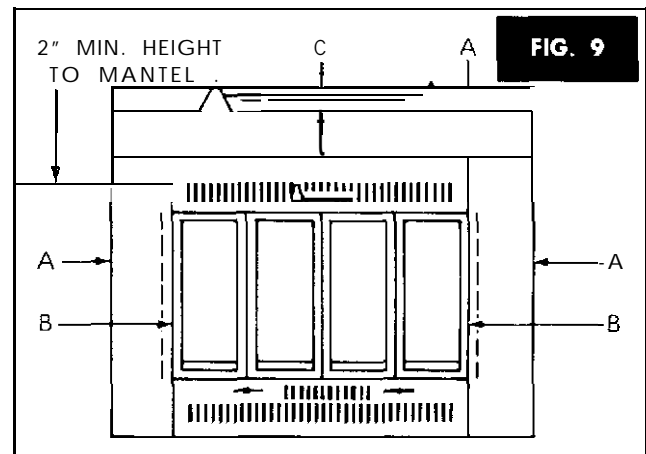

FIG. 9
- For finishes using non-combustible facings, the materials may overlap the frame of the fireplace up to within $\frac{1}{2}$ " of the opening on either side. It should not extend below Line C (Fig. 9) above the fireplace opening. The finished materials may be anchored using metal screws into the fireplace frame.